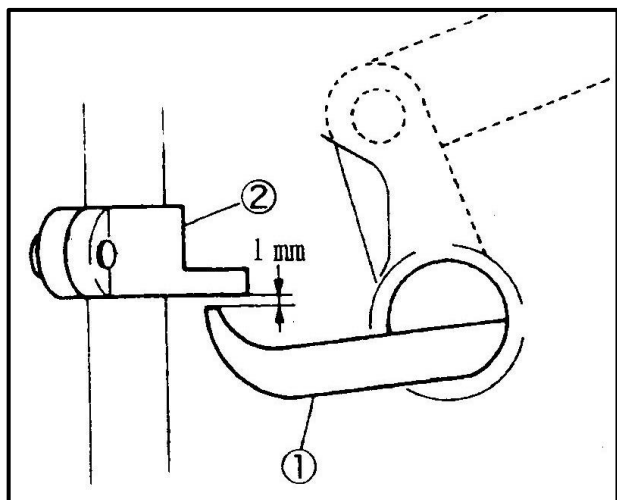

Fig.3
1. As standard, make the clearance between the presser bar lifter lever ② and the presser bar connecting bracket ① to 1 mm when the presser foot touches the stitch plate closely. (Fig. 3, 4)